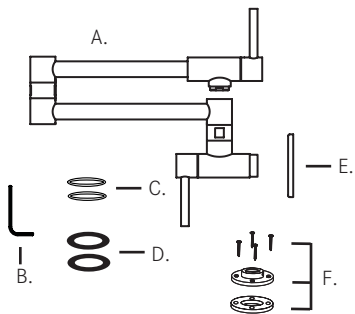

Figure 1
5. It is recommended to install studs around the water supply nipple to support the mounting flange of the faucet. The water supply nipple should protrude between 13mm (1/2") and 16mm (5/8") from the finished wall surface. See Figure 1.